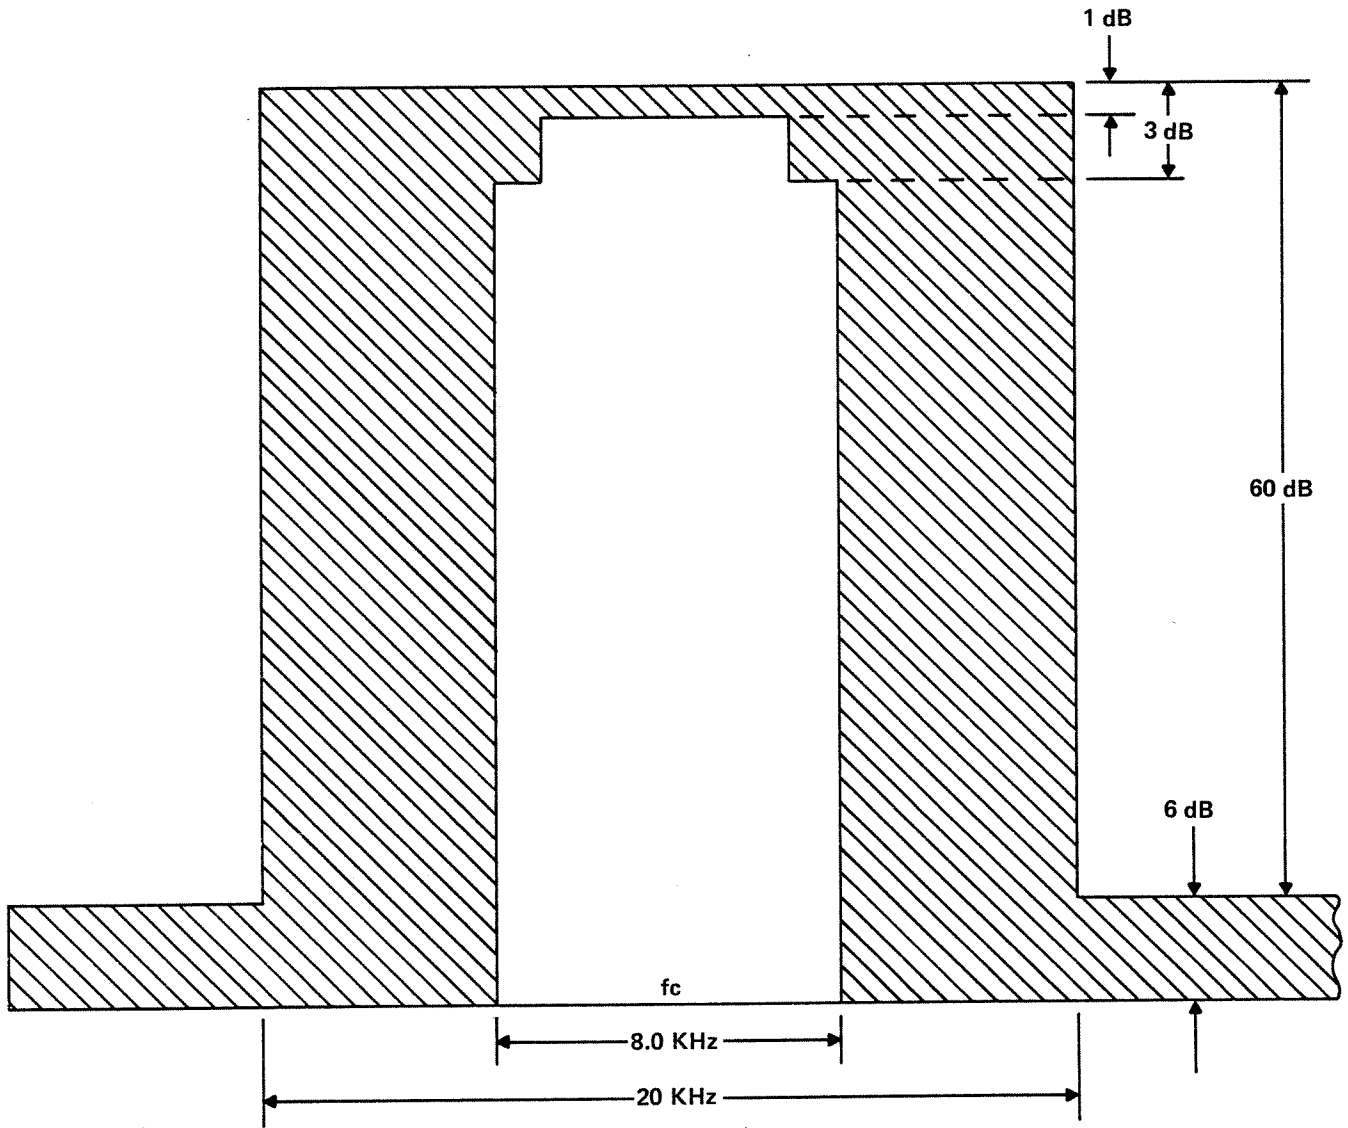

Figure 3-8. Overall Filter Response
4. Observe trace and adjust L21 for best flat response over middle 3.2 kHz. (Refer to Figure 3-8.) Ensure that ripple is less than 1 dB for \pm 1.5 kHz. Record results.